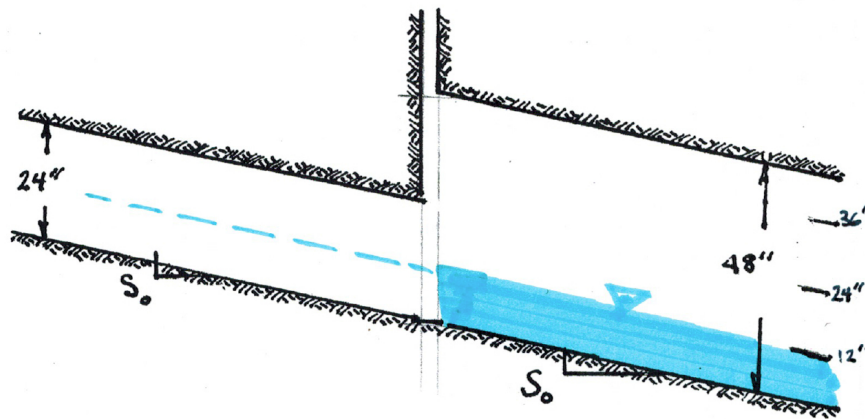

Figure 4: Sewer pipes connected at a junction box. Matching flow line elevations.
7. Figure 4 is a sketch of a 24 inch line with Manning's n of 0.015, laid on a slope of 0.01, connecting to a 48 inch line (also at 0.01) at a junction box. The flowlines (invert elevations) match at the junction box. The downstream boundary conditions cause the flow depth in the 48 inch line to be 12 inches deep.